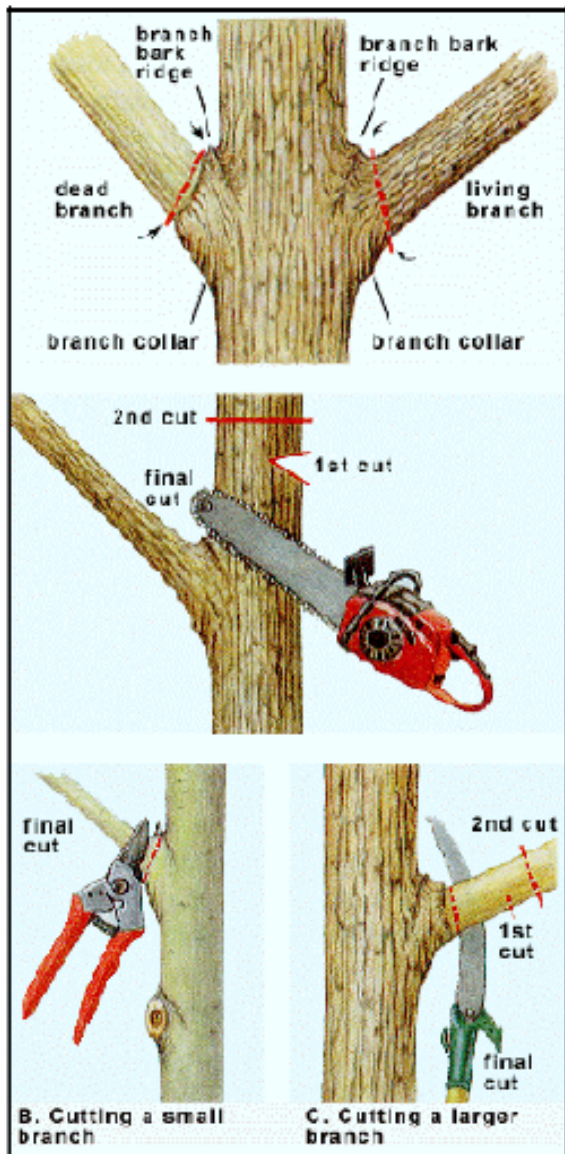

Figure 6. Pruning cuts
1. *Pruning living branches* (Fig. 6)
2. Pruning dead branches (Fig. 6)
Proper tools are essential for satisfactory pruning (Fig 6). The choice of which tool to use depends largely on the size of branches to be pruned and the amount of pruning to be done. If possible, test a tool before you buy it to ensure it suits your specific needs. As with most things, higher quality often equates to higher cost.